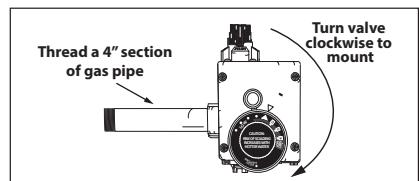

Figure 54 - Installing New Gas Valve
- 1** Install the new gas control valve/thermostat into the water heater by threading a 4" section of gas pipe into the gas inlet side of the gas control valve/thermostat. Install the valve to the water heater by turning the gas control valve/thermostat clockwise until snug (See Figure 54).